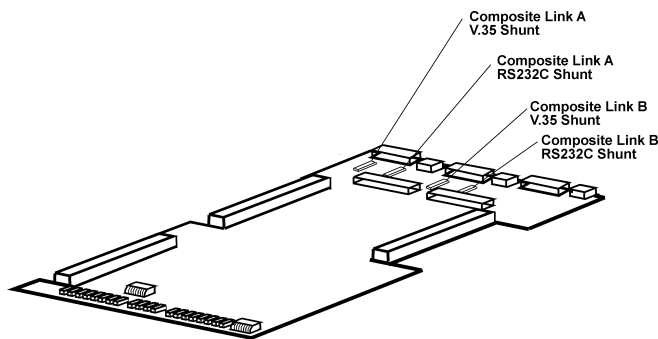

Figure 4-4. Shunts
- 10 On the Aggregate board, move the V.24/V.35 shunt for the composite link being connected from the V.24 position to the V.35 position. See Figure 4-4.